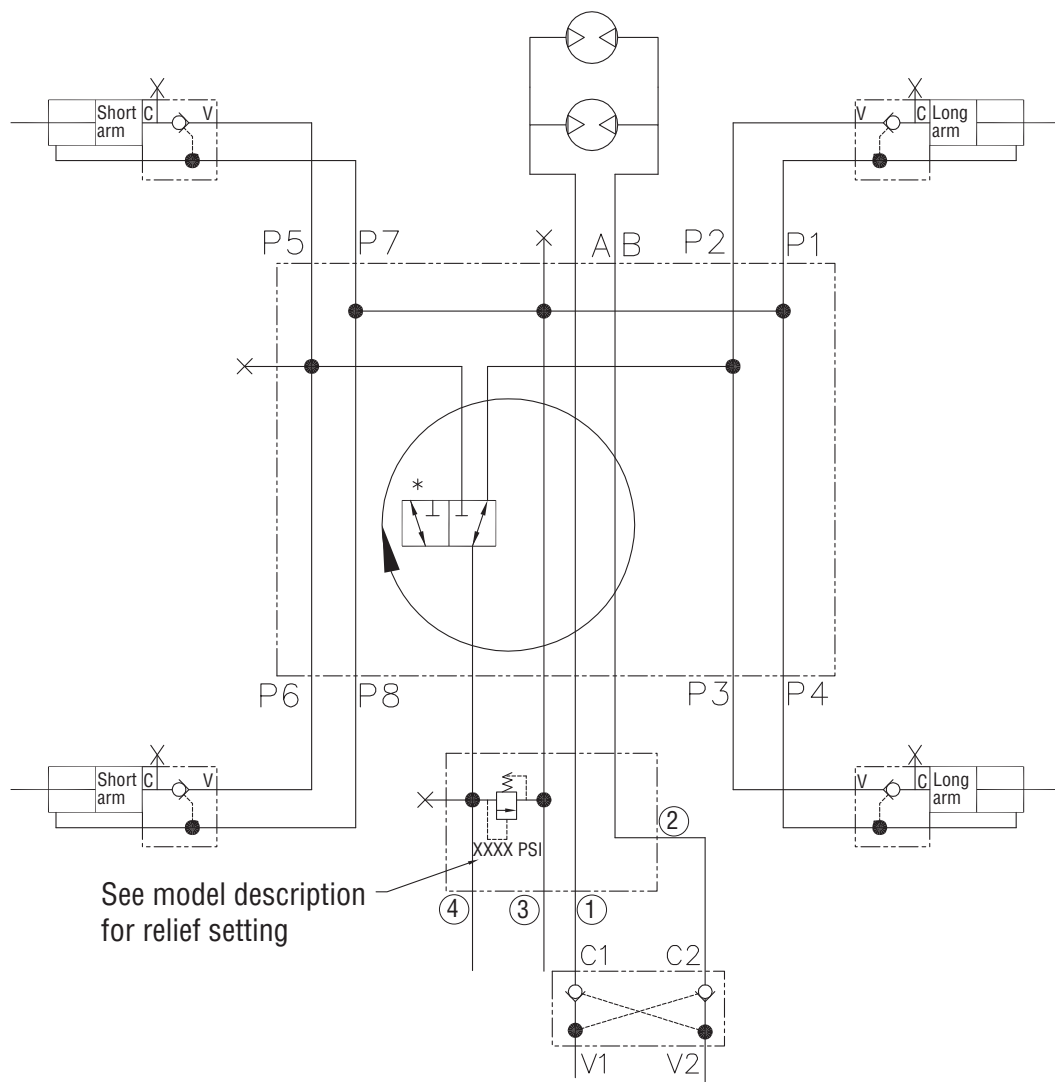

Figure 5-43, Hydraulics
2. Disconnect hydraulic hoses from the truck at the attachment's swivel assembly ports 1, 2, 3 and 4 (Figure 5-43). Cap hose ends with metal plugs and caps. Tag hoses for reassembly.